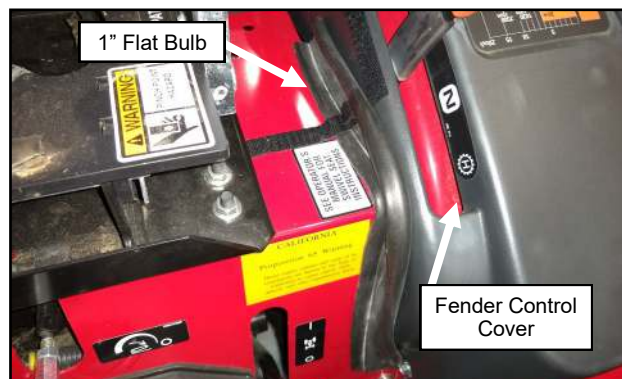

Fig. 23.1 (1" Flat Bulb Orientation)
**23.1** Install the provided 1" flat bulb on the left side of vehicle by inserting the bulb's grip at the top of the vertical portion of the under seat panel and push the bulb down toward the floor. Once all the way down, continue working the grip onto the horizontal part of the under seat panel filling the void between the vehicle's left fender and under seat panel as shown in Figure 23.1. Remove the grey plastic fender control cover if necessary.